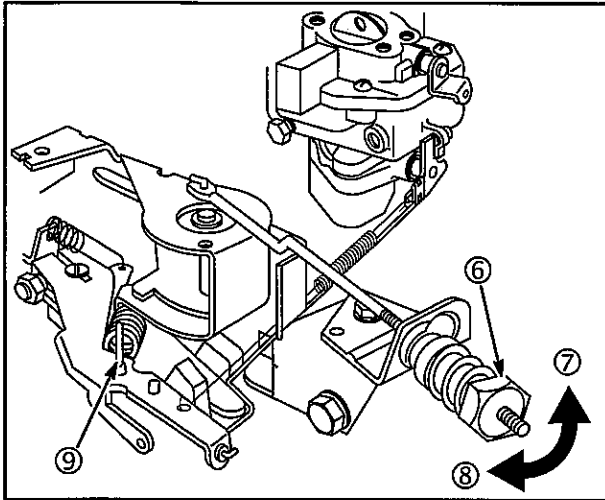

Fig. 37
NOTE: Be sure the governor spring is installed in #1 hole in governor lever (9), Fig. 37.
5. Turn fixed speed adjustable control nut (6) clockwise (8) to increase or counter-clockwise (7) to decrease engine speed until desired Top No-Load RPM is obtained, **Fig. 37**.